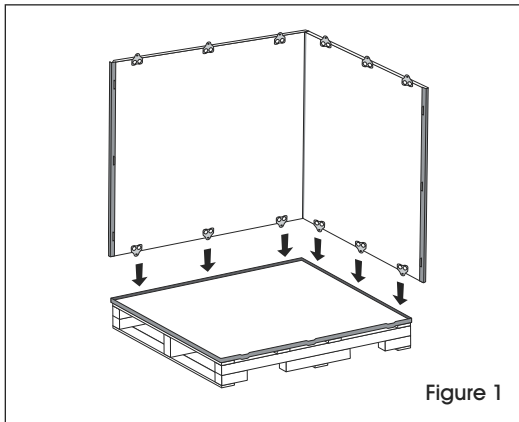

Figure 1
1. Unfold panel and secure to base. (See Figure 1)